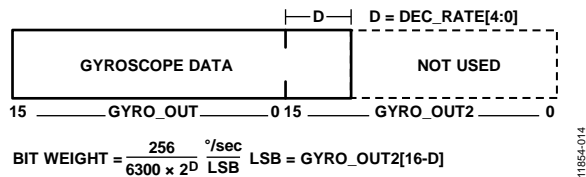
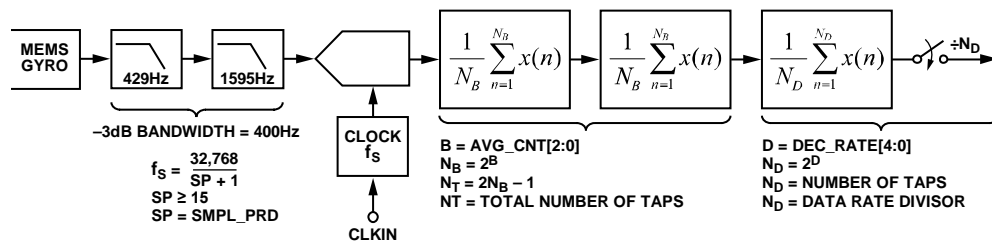

Figure 14. Gyroscope Output Format, DEC_RATE[4:0] > 0
Figure 18. Sampling and Frequency Response Block Diagram
The GYRO_OUT2 register (see Table 11) captures the bit growth associated with the decimation and FIR filters (see Figure 18) using an MSB justified format. The bit growth starts with the MSB (GYRO_OUT2[15]), is equal to the decimation rate setting in DEC_RATE[4:0] (see Table 18), and grows in the LSB direction as the decimation rate increases. See Figure 14 for more details.
Figure 18 provides a block diagram for the sampling and digital filter stages inside of the ADIS16137. Table 15 provides a summary of registers for sample rate and filter control.
[15:0]	Clock setting bits; sets f_s in Figure 18
[2:0]	Binary; B variable in Figure 18; maximum = 110 (6)
The DEC_RATE register (see Table 18) provides user control for the final filter stage (see Figure 18), which averages and decimates the output data. For systems that value lower sample rates, this filter stage provides an opportunity to lower the sample rate while maintaining optimal bias stability performance. The –3 dB bandwidth of this filter stage is approximately one-half of the output data rate. For example, set DEC_RATE[7:0] = 0x04 (DIN = 0xA204) to reduce the sample rate by a factor of 16. When the factory default 2048 SPS sample rate is used, this decimation setting reduces the output data rate to 128 SPS and the sensor bandwidth to approximately 64 Hz.
[4:0]	Binary; D variable in Figure 18; maximum = 10000 (binary) = 16 (decimal)